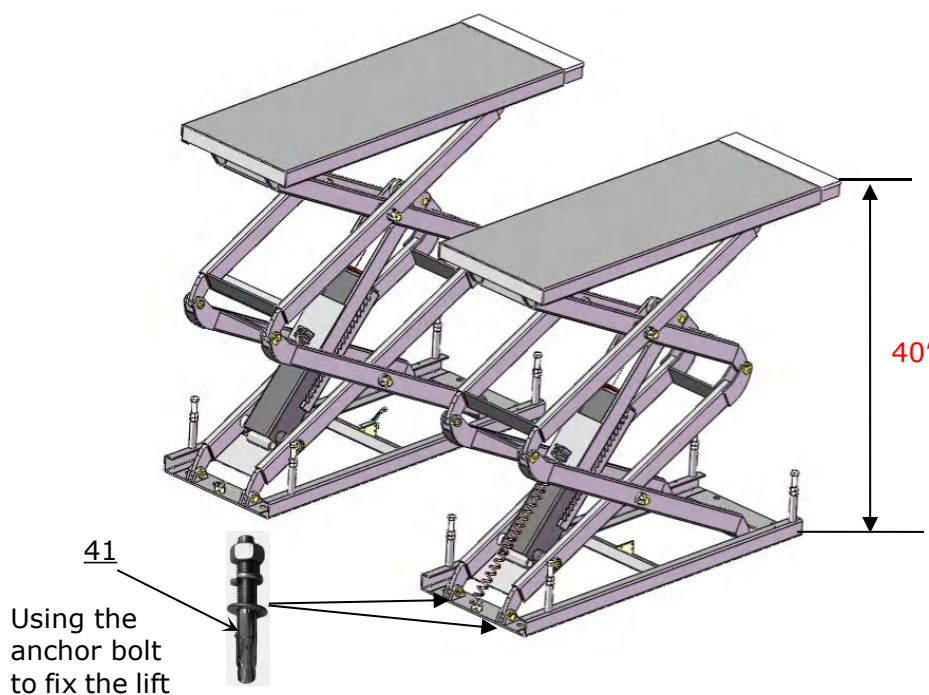

Fig.22
3.1 If P2 platform lower than P1 platform, turn the Two-way valve to oil filling position (See Fig.22). Push button **UP**, rise P2 platform to the same level as P1, then turn the Two-way valve to normal working position (See Fig.21).